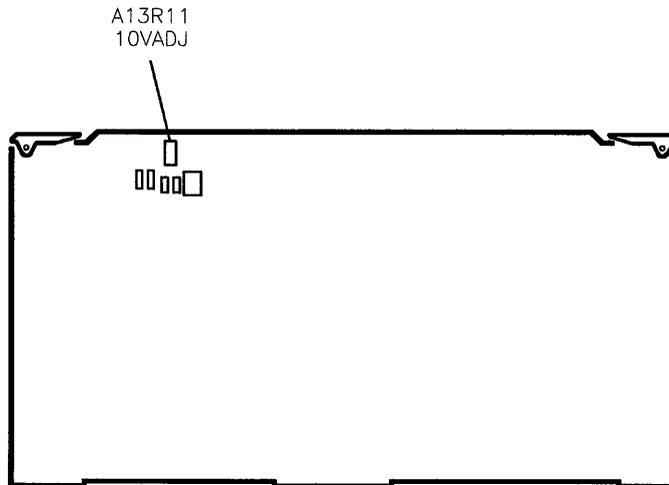

Figure 3-10. YO Driver +10 V Reference Adjustment Location
4. Adjust A13R11 (see Figure 3-10) to center the “needle” on the display.